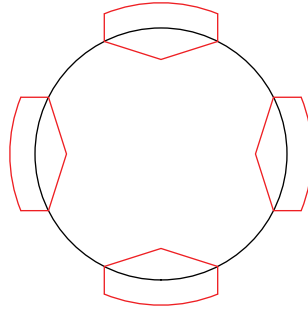

Fig. 2
- See Fig. 2 for via vent pattern example